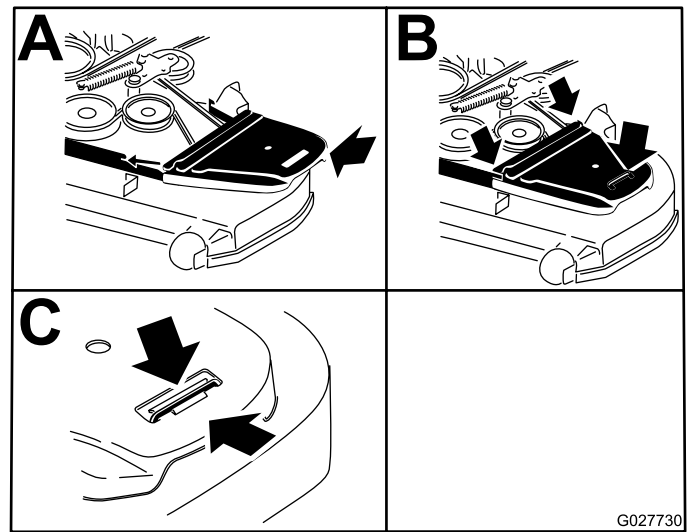

**Figure 61**
15. Install the belt covers (Figure 61).